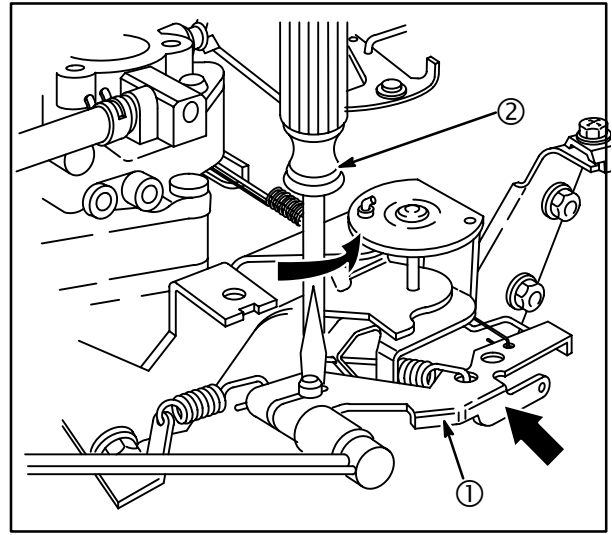

Fig. 44
2. Use a screwdriver (2) to rotate governor shaft **COUNTERCLOCKWISE** as far it will go, **Fig. 44**. Torque governor nut to **70 in. lbs. (8 Nm)**.